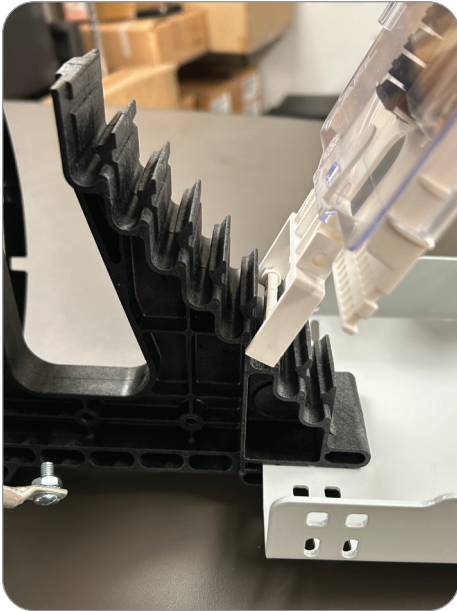

Figure 15
5. Install trays into FOSC C/D style yoke closure starting at bottom position and moving up. (Figures 15, 16 and 17)